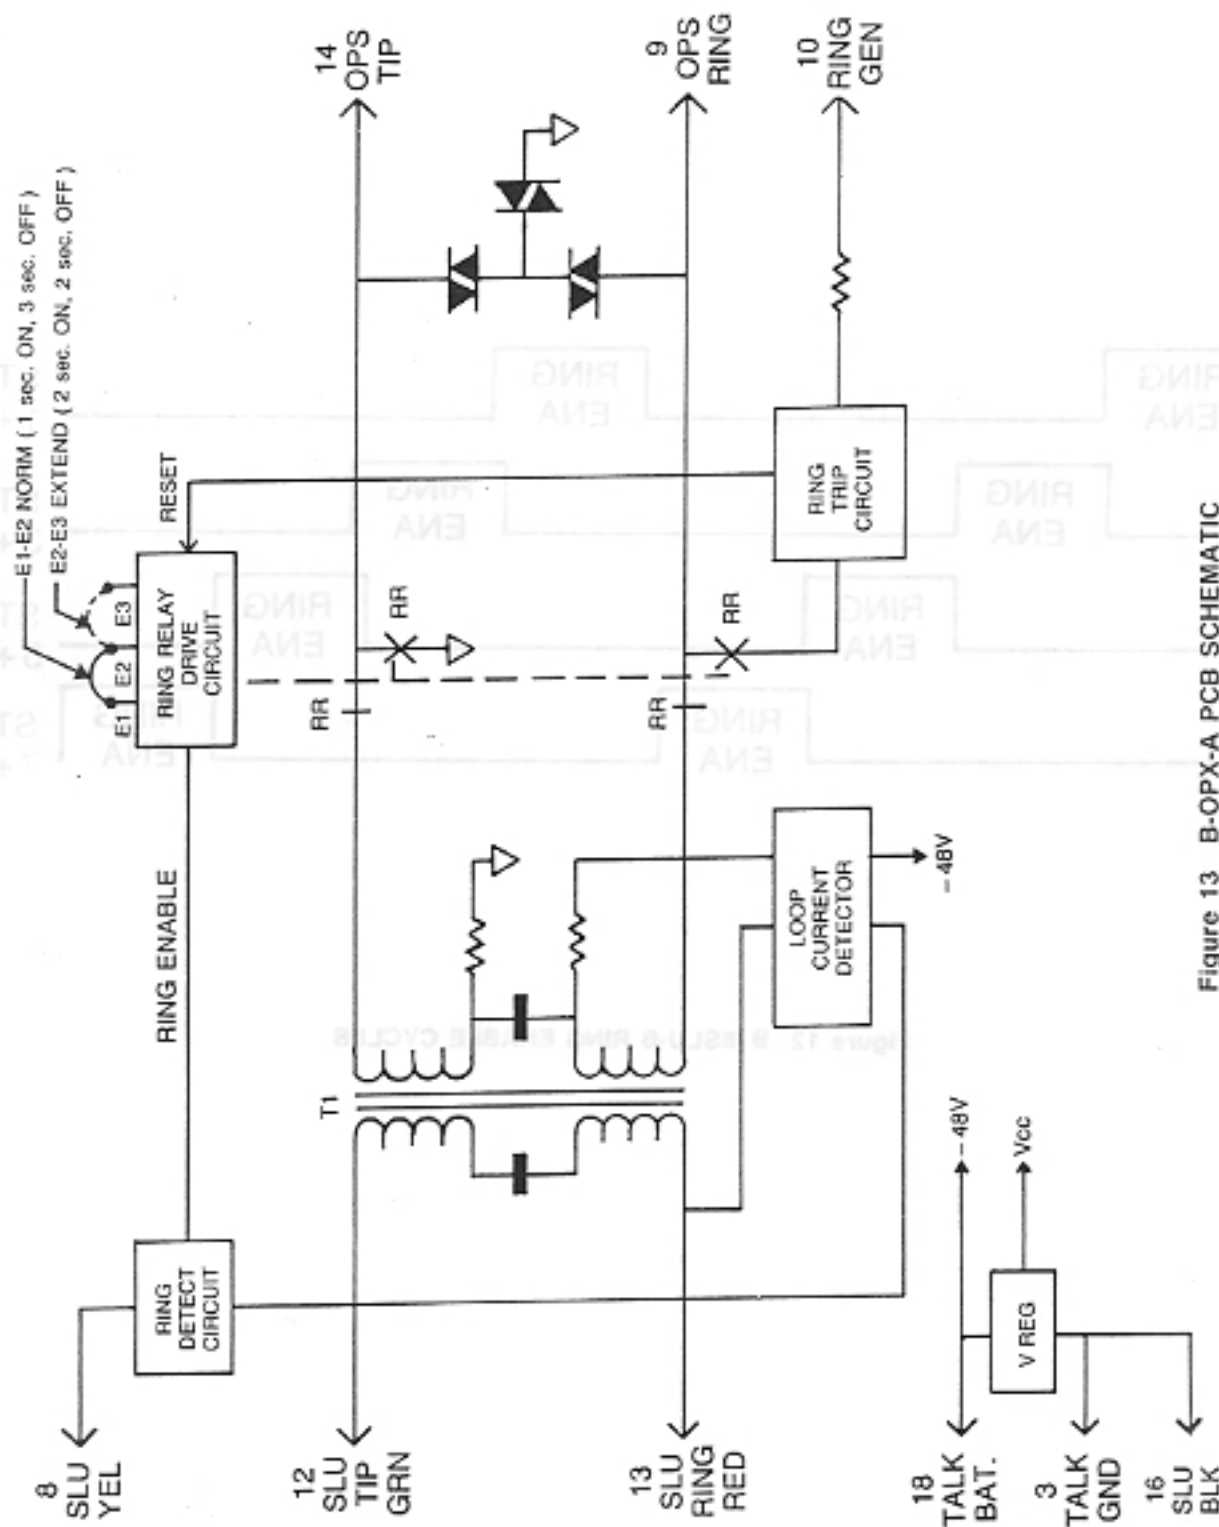

Figure 13 B-OPX-A PCB SCHEMATIC
**5.04** When the OPX station goes off hook, a DC current of at least 20ma flows through the battery-feed coil ( T1 ) and the two resistors ( Figure 13 ). This current is detected by the Loop Current Detector. This detector closes a DC path across SLU Tip and SLU Ring. Current flows through this path and an off hook condition is detected on the SLU card. System ICM dial tone is heard at the OPX station.